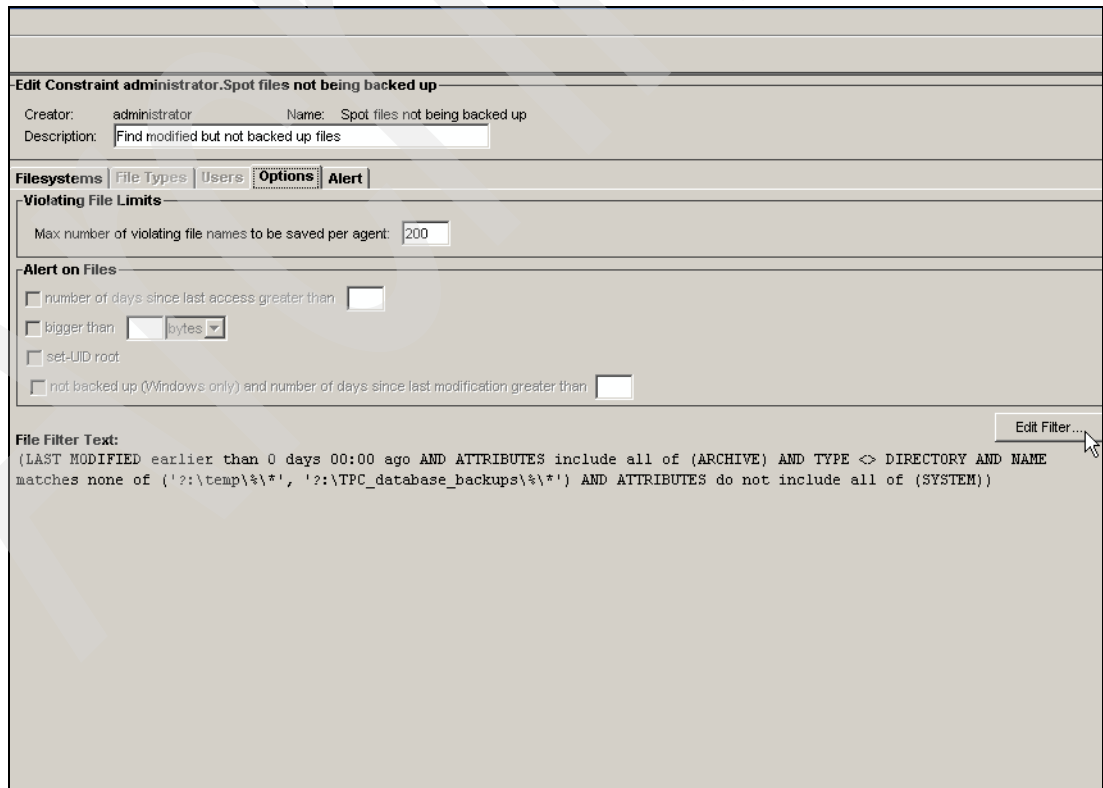

Figure 2-3 Define constraint filter
3. After you make your selection, move to the **Options** tab to continue the constraint definition as seen in Figure 2-3.
4. You see in Figure 2-3 on page 16 that the constraint is already defined.
- c. Create a filter to spot files that are not backed up. To create this filter, click **Edit Filter** as in Figure 2-3 on page 16.